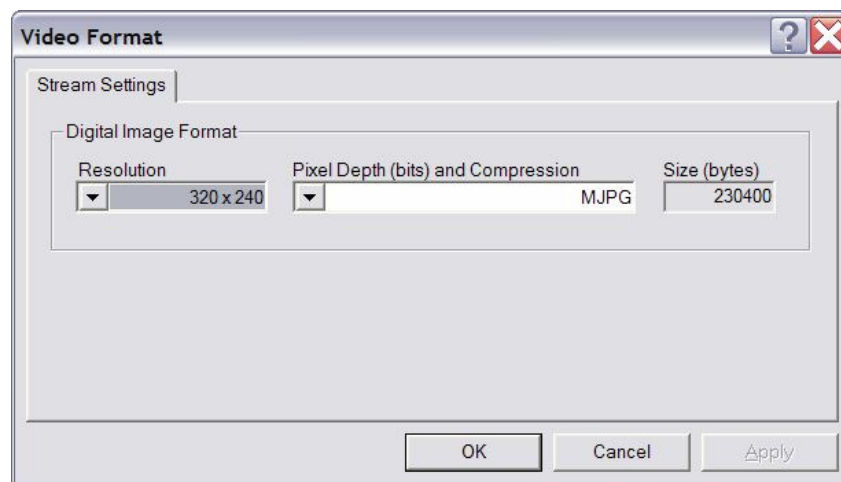

Figure 8. Web Cam Settings Dialog
4. On the popup dialog box (should be the same or similar to the one shown in Figure 8), select the image resolution that matches your choice of image size. If there are codec options available, select RGB or uncompressed. If neither RGB nor uncompressed is available, select any of the codecs (a faster one is better) and make sure that the selected codec has been installed on the machine.